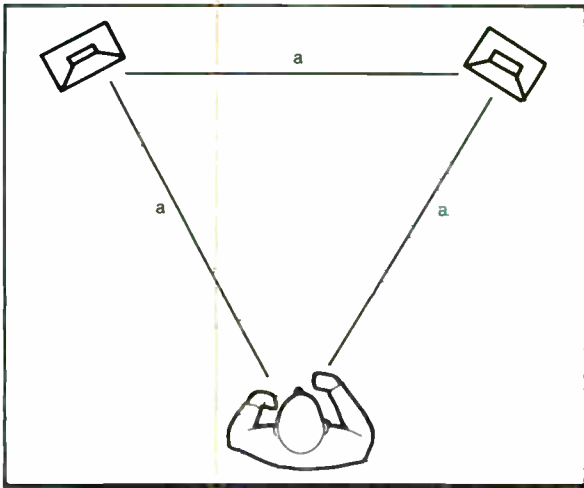

FIGURE 7.4 Speaker-to-listener relationship.
Where the operator is located in relation to the speakers also plays a role in how they sound, especially with stereo programming. Ideally, the operator is located directly between the two speakers and far enough back from them so that an equilateral triangle is formed if a line is drawn from speaker to speaker and from operator to speaker (see Figure 7.4). If the layout of the production room positions the operator closer to one speaker than the other, the source of all the sound appears to shift toward that speaker. As a production person, you may not have any control over the speaker placement, but it is important that you realize the effects of speaker placement on the sound you hear.
- No. This would put the listener directly in front of one of the speakers and all of the sound would appear to be coming out of that speaker. Reread 7.6, check Figure 7.4, and select the other response.